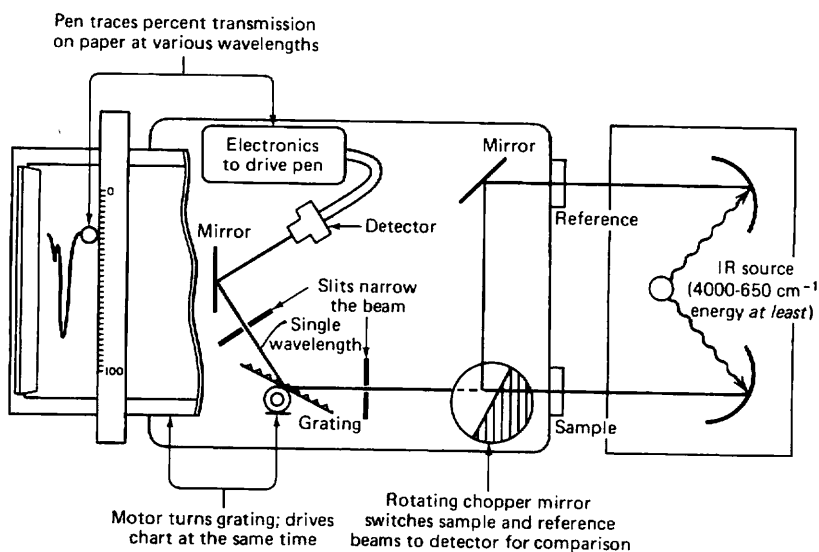

Fig. 158 Schematic diagram of an IR.
1. **The sample beam.** Most IRs are **dual-beam instruments** (Fig. 158). The one closest to you, if you're operating the instrument, is the **sample beam**. Logically, there is a **sample holder** for the sample beam, and your sample goes there. And there, a beam of IR radiation goes through your sample.